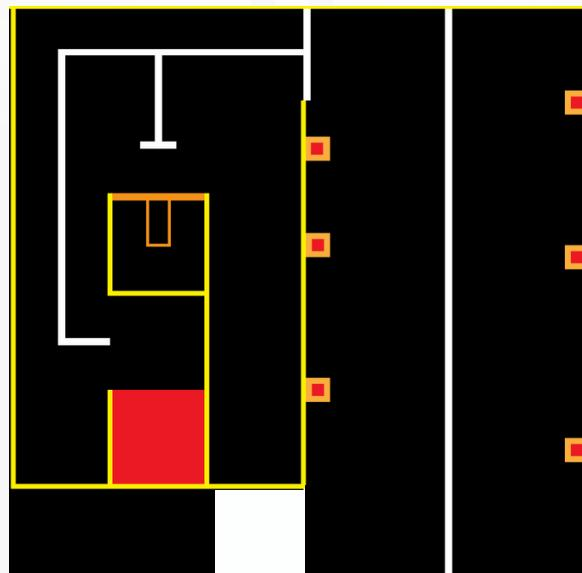

Figure 17 - Elimination round arena
- For the Elimination Round, only the physical arena segments for Task 2 and Task 3 (Figure 17) will be provided, and only physical-arena tasks will be evaluated (the Simulation Arena task will not be tested).